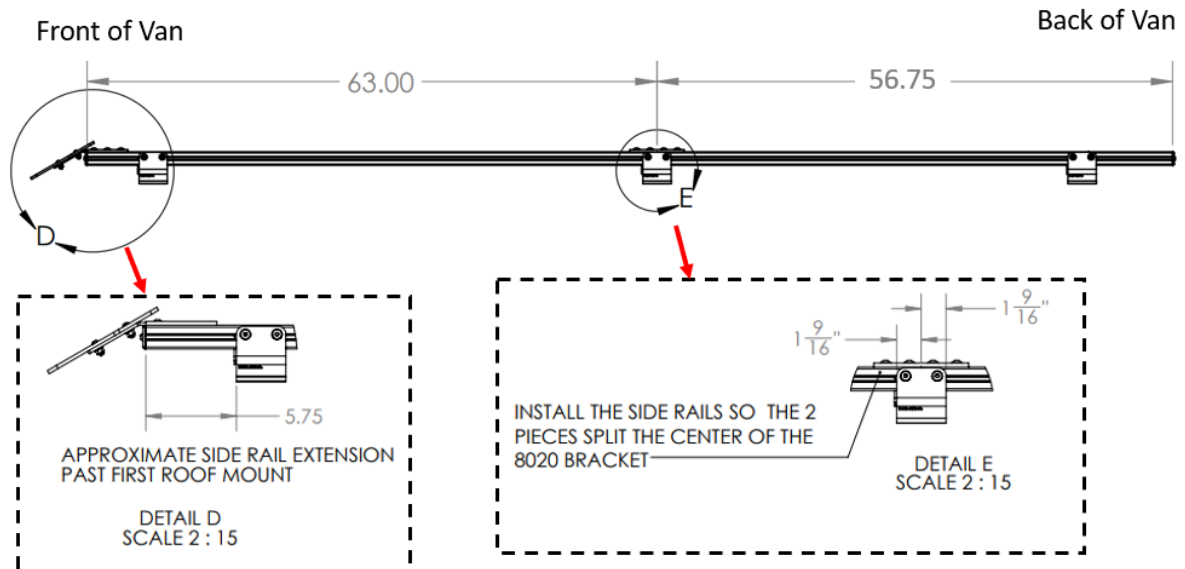
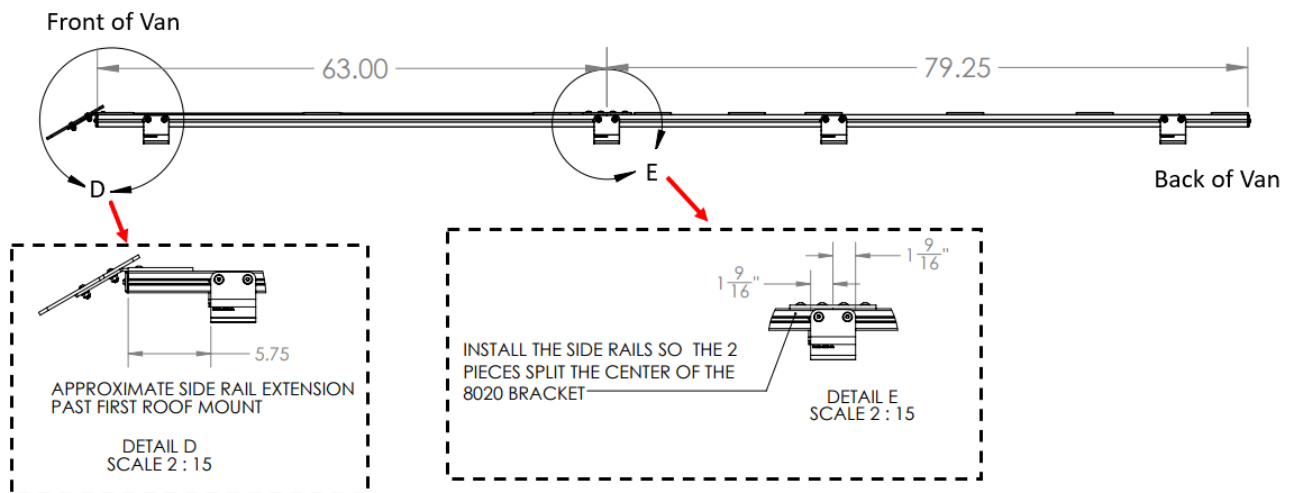
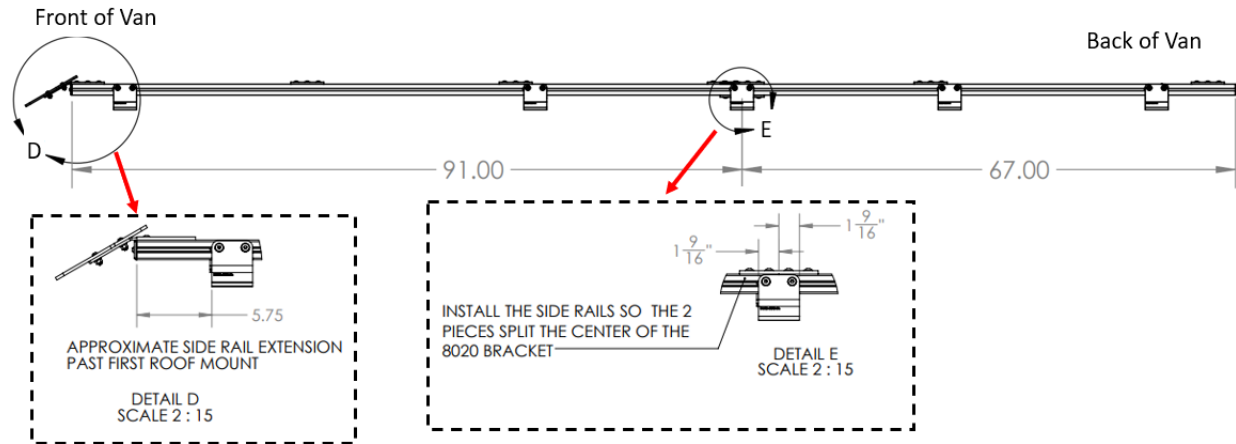

Figure 9: Ram ProMaster 136" WB Side Rail Locations
Figure 10: Ram ProMaster 159" WB Non Extended Side Rail Locations
Figure 11: Ram ProMaster 159" WB Extended Side Rail Locations
1. For all van sizes, roughly position your side rail assemblies so the front leading edge of the front side rail is roughly 5.75" in front of the first Unaka bracket as shown in Figure 10. This should locate the splice between the front and rear side rails at another Unaka 8020 adapter. At this point your 8020 side rails will still be resting on the roof and the final position will be adjusted later. Figure 9, Figure 10, and Figure 11 show the basic side rail assembly set ups for the Ram ProMaster 136" WB, 159" WB Non Extended, and 159" WB Extended vans.
Figure 10 shows the dimensions and splice locations on a Ram ProMaster 159" WB Non Extended van. The 5.75" dimension from the front rack bracket is the same for all three van sizes. The only thing that changes from one van size to the other is how many rack brackets and 8020 adapters are used, how long the side rails are, and where the splice location is located.